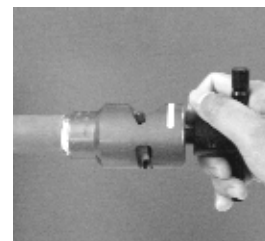

Figure 3
- 3) **Insert cable end into prep tool and turn tool clockwise** to cut into and remove material (Figure 3). When tool no longer cuts away material and spins freely, **remove** tool while continuing to turn. (This process will remove 0.5"-0.6" jacket for standard jacket cable – black jacket. If necessary, **remove** jacket remnants with razor knife).